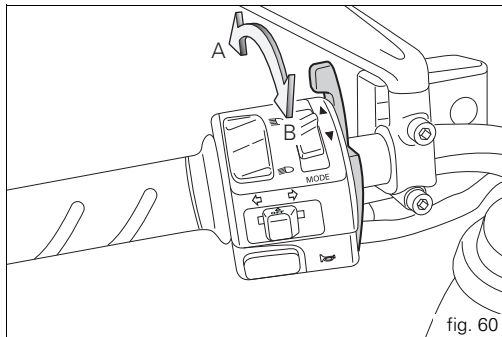

fig. 60
- 2) Shift the cold-start lever to position (B, fig. 60).
- 3) Check that the stop switch (2) is positioned to  (RUN), then press the starter button (3).